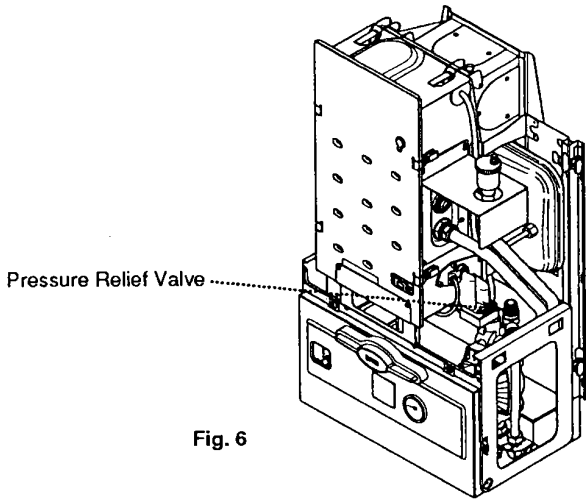

Fig. 6
4.9 Pressure Relief Valve (Figs. 6 & 7)